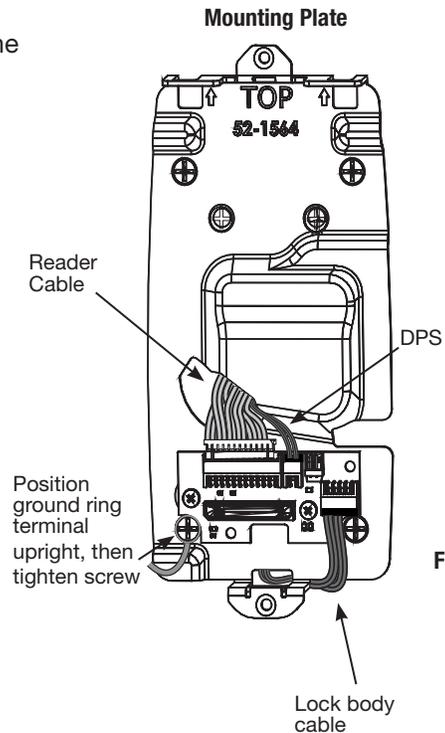

Fig. 10B
3. Feed controller and keypad wires/cables through side opening (Fig. 10B).
4. Route ground ring terminal from lock body through bottom of mounting plate and attach to bottom right corner screw. Make sure it is positioned upright (Fig. 10B).
5. Insert other three #8-32 x 1-7/8" flat head machine screws and tighten, fastening the outside escutcheon to the door (Fig. 10B).